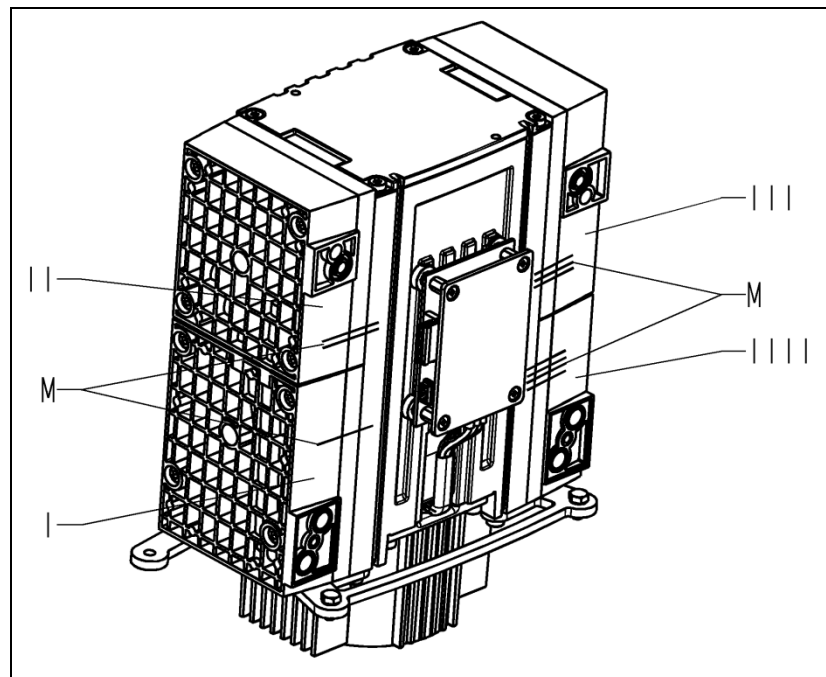
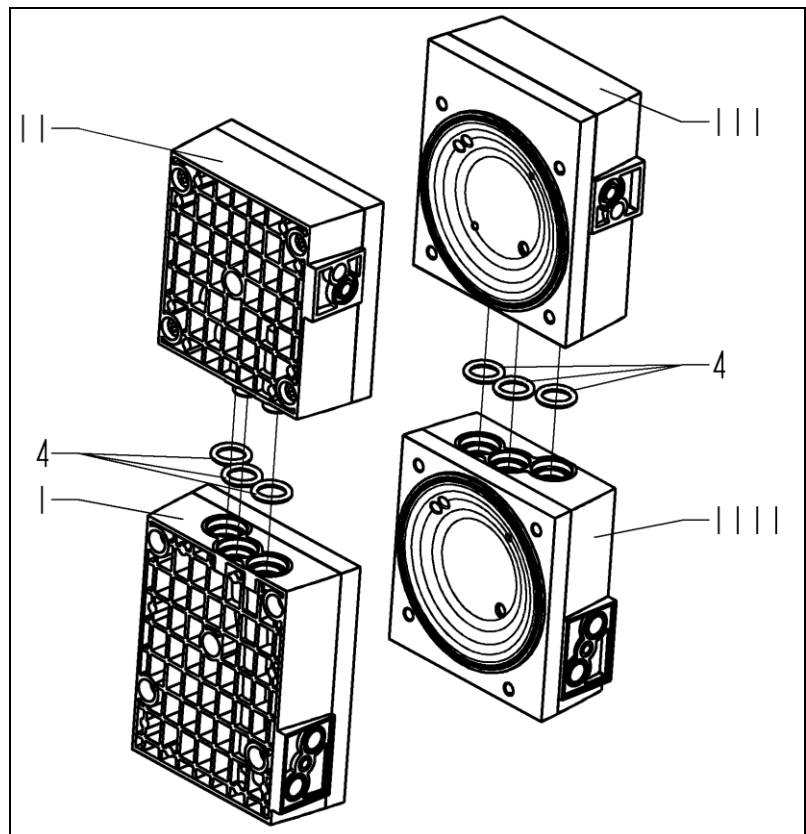
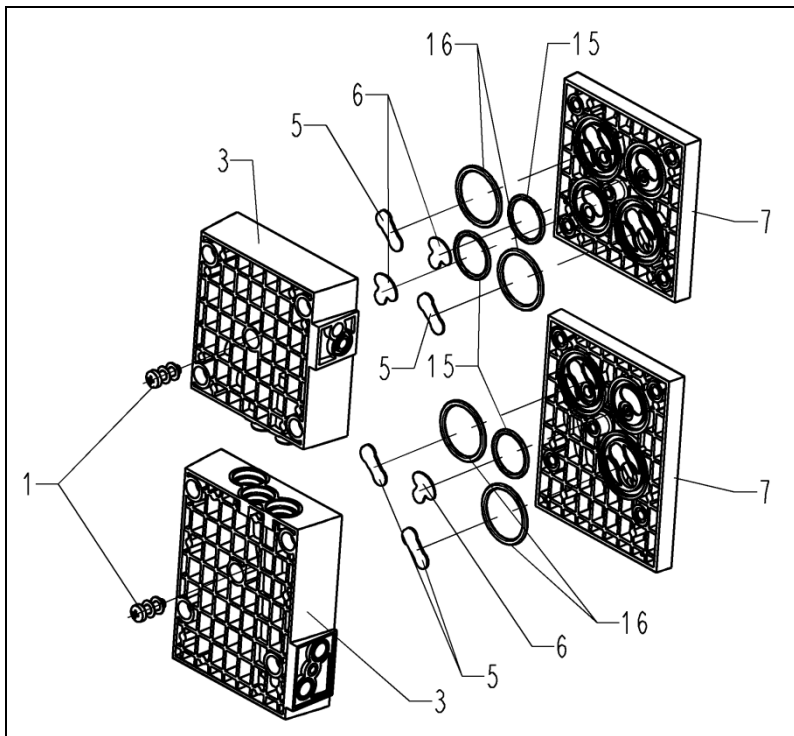

Fig. 21: Marking the pump
Fig. 22: Removing the O-rings
Fig. 23: Exploded drawing of pump heads 1 and 2
3. Head 1 (Fig. 21/I):
4. Head 2 (Fig. 21/II):
5. Head 3 (Fig. 21/III):
6. Head 4 (Fig. 21/IIII):
8. Pull apart heads 1 (Fig. 22/I) and 2 (II) and heads 3 (III) and 4 (IIII) and remove O-rings (**4**).
9. On all four heads, undo the head screw (Fig. 23/1) in the head plate (**3**) and remove head plate from the intermediate plate (**7**).
2. Remove from the intermediate plates (Fig. 23/7) the valve plates (5) and (6) and the O-rings (15) and (16).
4. Insert the new valve plates (Fig. 23/5) and (6) and the new O-rings (15) and (16) into the intermediate plates (7).
- i** Place the black O-rings (15) and (16) into the intermediate plate of head 4 (see Fig. 22).
5. Place head plates (Fig. 23/3) onto the intermediate plates (7), observing the pencil marks (Fig. 21/M).
6. With your hands, carefully and lightly tighten the head plate's head screw (Fig. 23/1) on all four heads (torque: 60 Ncm).
1. Place three O-rings (Fig. 22/4) into each of the head connection holes.
- i** Place the three black O-rings (4) into the head connection holes between heads 3 and 4.
2. Press together heads 1 and 2 (Fig. 21/I and II) and heads 3 and 4 (III and IIII).